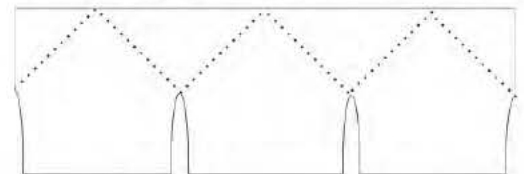
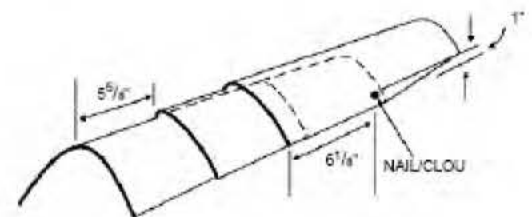

Figure 7
Figure 8
Step 6. Cut strip shingles into individual pieces by dividing at the cutouts. Figure 7. Bend each piece over the ridge, and nail 6-1/8" above the butt edge 1" in from each side, exposing each piece 5-5/8" to the weather. Figure 8. The final shingle should be set in cement and the exposed nail heads of this shingle should be covered with cement. Prior to application in cold weather, store ridge shingles in heated area to allow for easier bending.